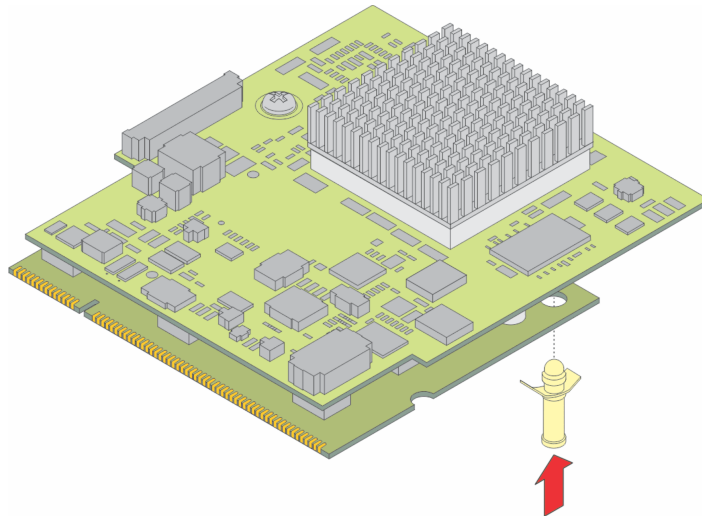

**Figure 21: Location of Standoff on MP160**
1. Insert the provided plastic standoff in the hole, see Figure 21: Location of Standoff on MP160 on page 75